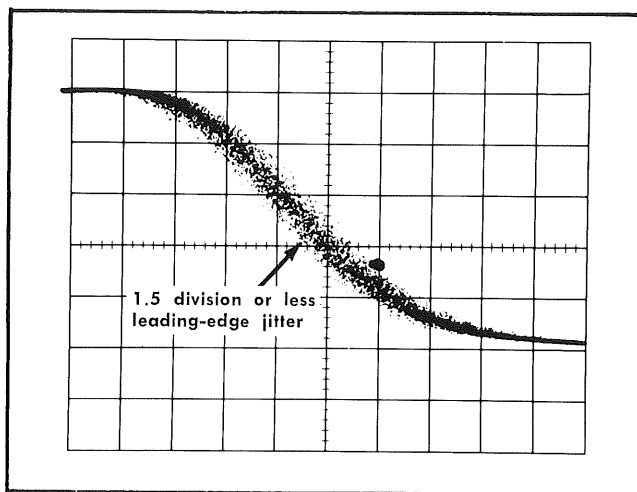

Fig. 6-17. Typical sampling system display of trigger jitter.
c. CHECK — Rotate the MULTIPLIER control throughout its range and check for 1.5 divisions or less jitter in the leading edge of the waveform (300 picoseconds or less; see Fig. 6-17).